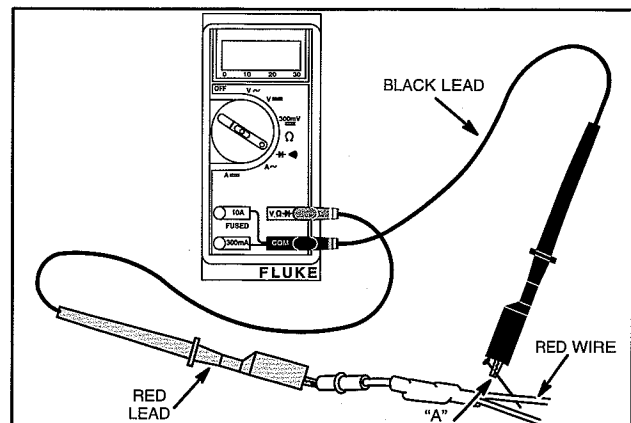

Fig. 18 – Diode Testing – Charging Circuit
4. Attach BLACK test lead clip to point “A,” (red wire) Fig. 18. (It may be necessary to pierce wire with a pin as shown.)